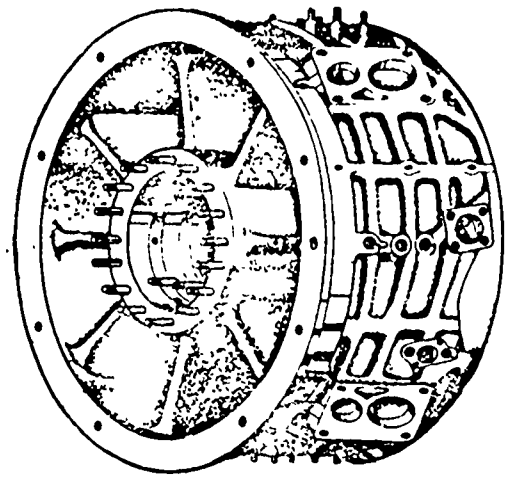

Figure 2. Compressor Air Inlet Housing.
c. Compressor Air Inlet Housing (Figure 2)